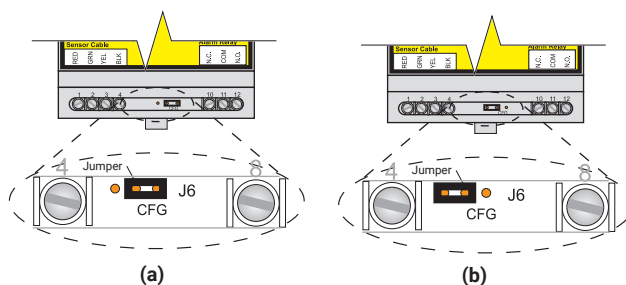

Figure 8. CFG jumper position for configuration mode (a) and normal operation (b)
- Using a small needle nose pliers, place the TTA-SIM configuration jumper in the CFG position, as shown in Figure 8(a).